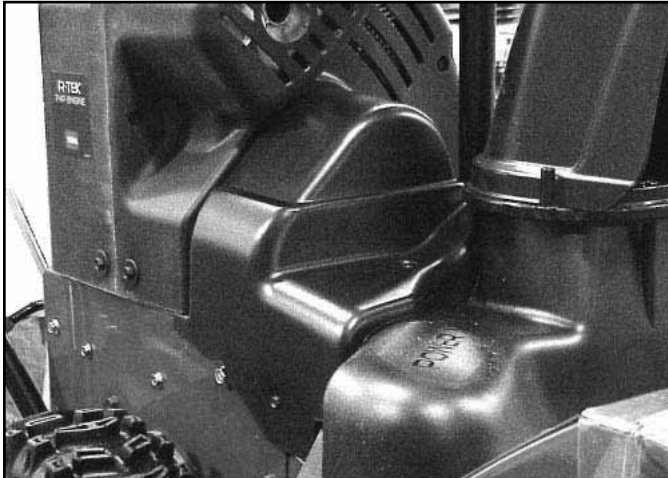

Fig 058
1. To replace the belts begin by removing both belt covers (Fig. 058). (On 2-cycle models only, remove 3 screws holding the front half of the engine shroud to the chassis and the rear shroud. The belt cover slides under the front of the engine shroud so this will make belt cover removal much easier.)